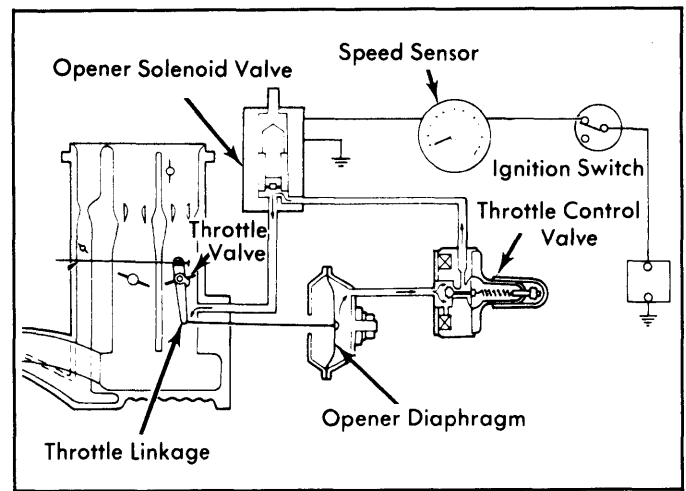

Fig. 8: 1975 Throttle Opener System
- 1975 Models** - 1) Start engine and warm to normal operating temperature (cooling fan comes on). Disconnect vacuum hose from throttle opener diaphragm. See Fig. 8. Connect a hand-held vacuum pump to diaphragm.